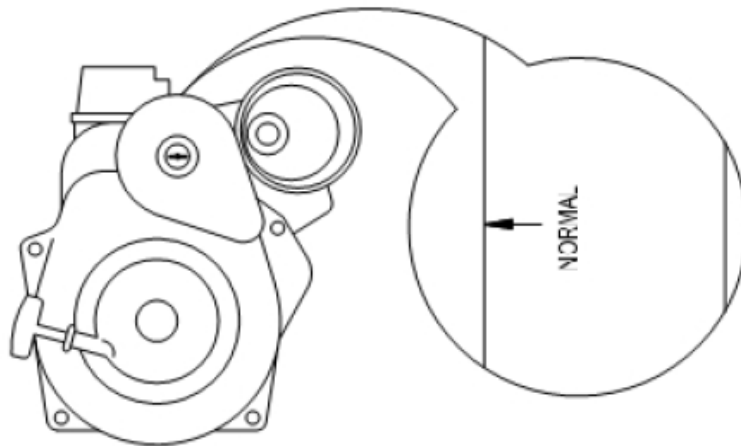

Figure 2-5. Air Intake Cover, Normal Operation
- (3) Connect load cables to load terminals, refer to paragraph 2.7.b.
- (4) Perform all B (Before) PMCS procedures, refer to Table 2-2.
- (5) Check that air intake cover (2) is in NORMAL operating (summer) position as indicated on top of filter cover (Figure 2-5).